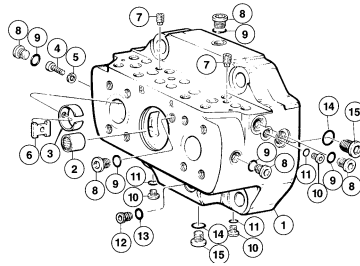

FIGURE 7
See **Figure 7**: Position the port block (1) on a clean flat surface with the two open ports up. **THE OPPOSITE FACE MUST NOT BE SCRATCHED OR DAMAGED.** Position needle bearing (2) on tool (figure T-1) with the marked end of the bearing against the shoulder on the tool and press the bearing (2) into the port block. The bearing must be .010" - .025" (0.254 - 0.635 mm) below the surface.
PARTS LIST FOR FIGURE 7